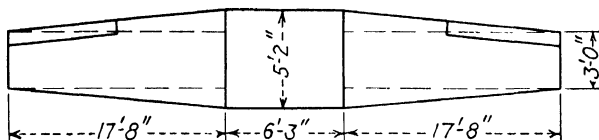

Fig. 156.
5. Find the area of the tapered wing in Fig. 156.